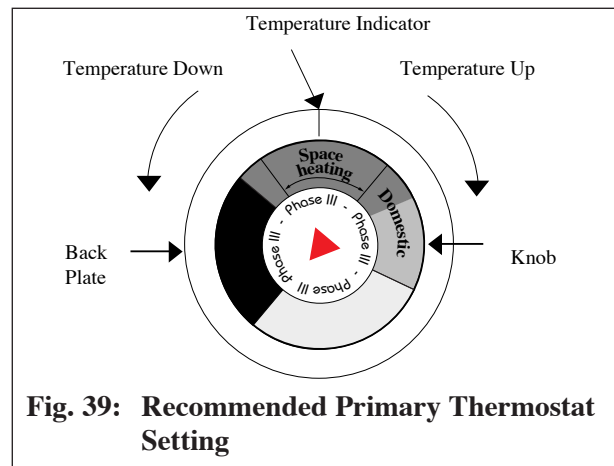

Fig. 39: Recommended Primary Thermostat Setting
- Set the thermostat knob as shown in Figure 39.